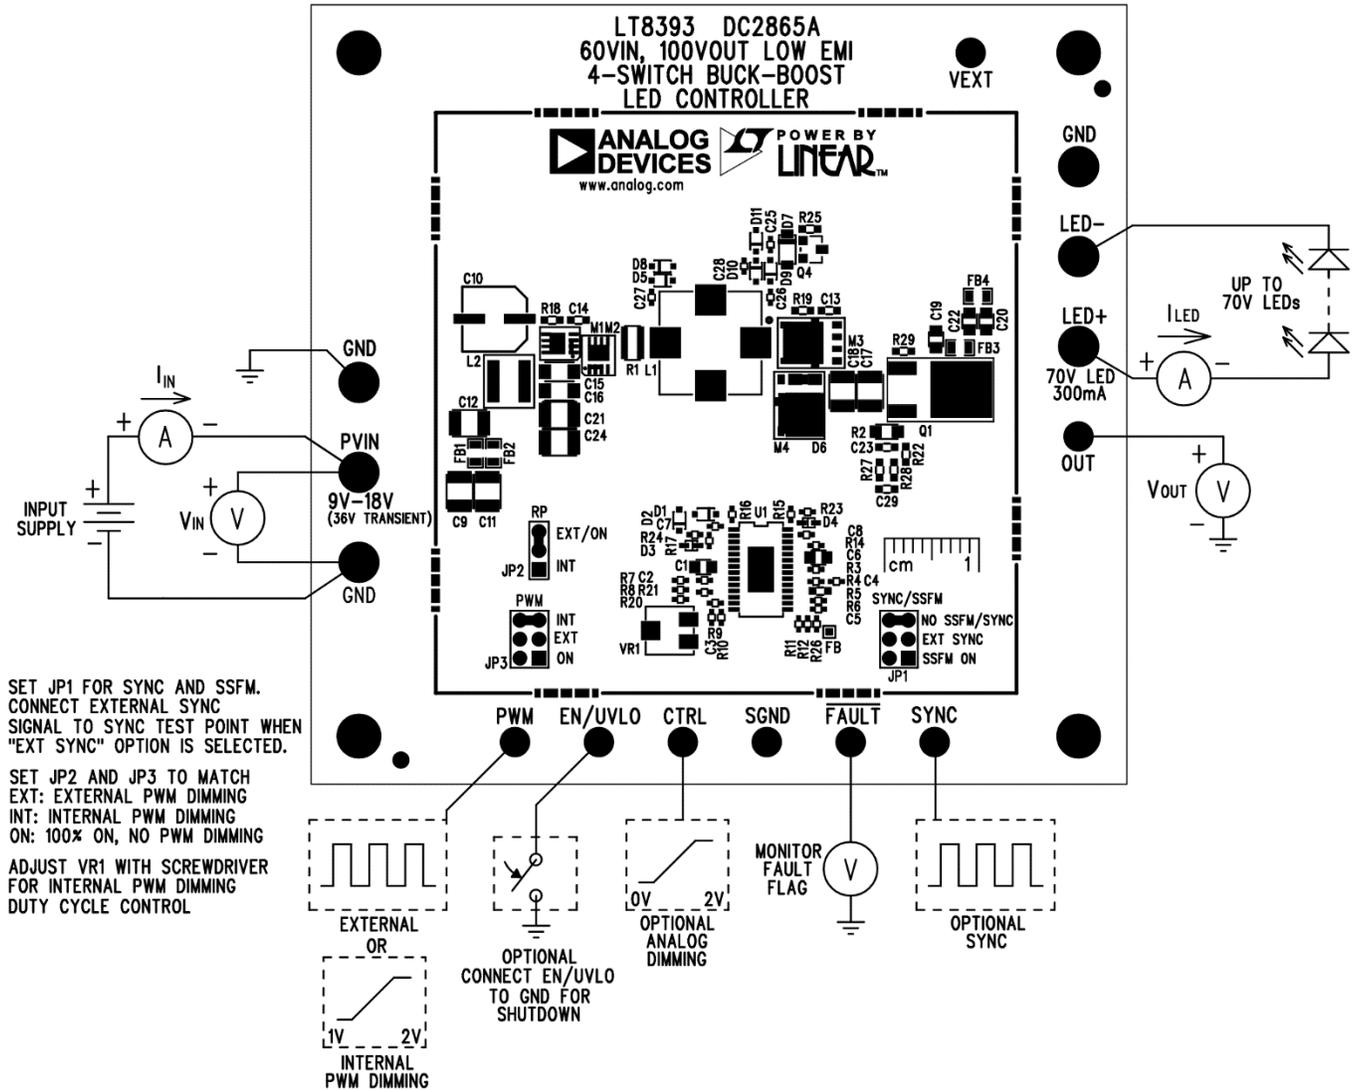

Figure 1. Test Procedure Setup Drawing for DC2865A
The DC2865A is easy to set up to evaluate the performance of the LT8393. Refer to Figure 1 for proper measurement equipment setup and follow the procedure below.
1. With power off, connect a string of LEDs that will run with a forward voltage less than or equal to 70V at 300mA to the LED+ and LED- terminals on the PCB as shown in Figure 1.